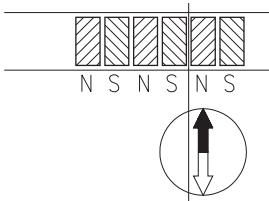

Fig. 18: Determination of the pole position.
- If necessary, use a compass needle to determine the location of the poles on the magnetic strip (fig. 18).